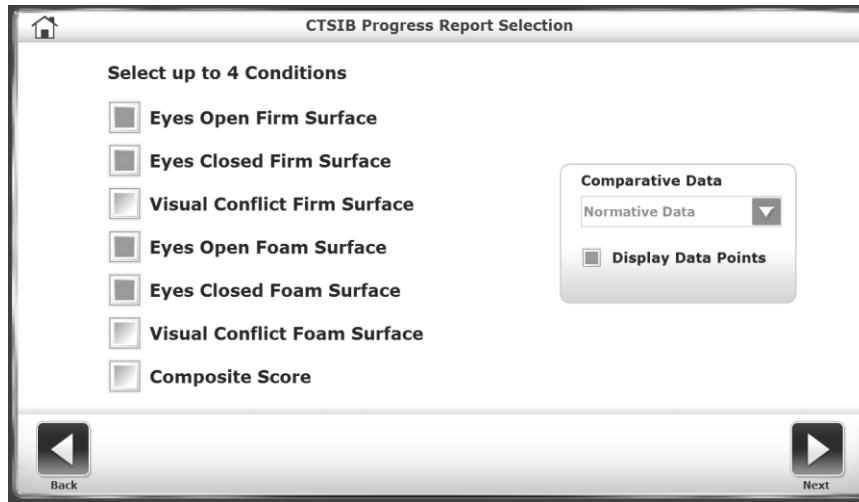

Figure 7.7. *Selecting Conditions for a Progress Report.*
4. On the Progress Report Selection screen, select a maximum of four conditions to include in the report (see Figure 7.7).